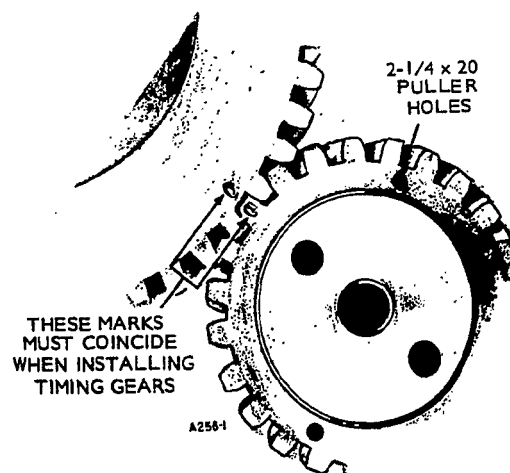

FIGURE 101. TIMING MARKS
4. Install camshaft assembly in engine. Align timing marks on camshaft gear and crankshaft gear (Figure 101).